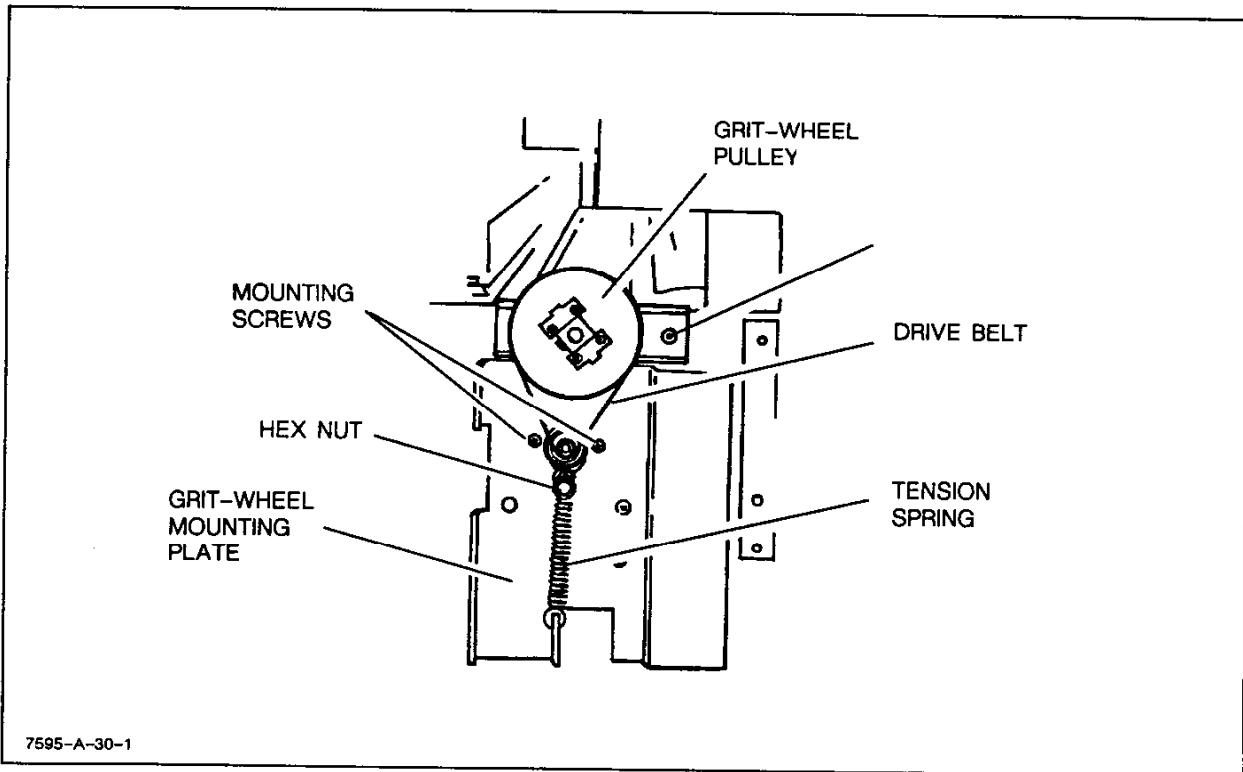

Figure 6-34. Grit Wheel Drive Assembly
- a. Turn the plotter line switch to OFF (O) and disconnect the ac power cord.
- d. Remove the grit wheel drive belt tensioning spring. See Figure 6-34.